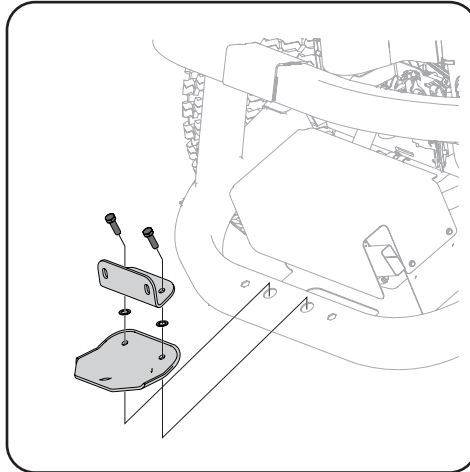

Figure 4-3
3. Install bracket assembly to the tractor's lower frame with two capscrews (710-0376). See Figure 4-3.